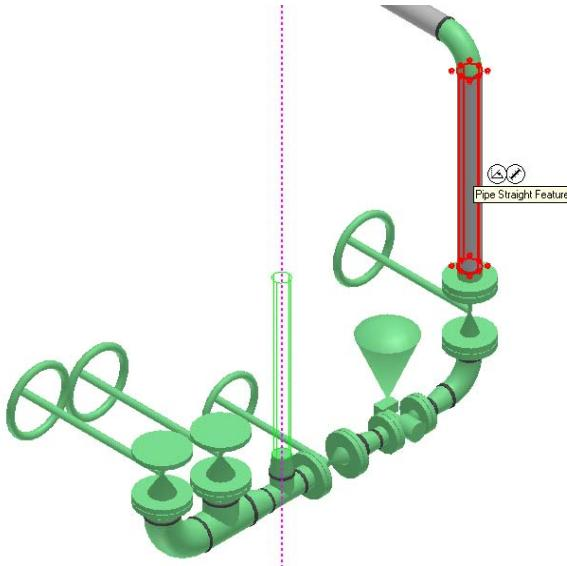

Figure 93: Routing a Pipe Straight Feature
57. Route a **Pipe Straight Feature** to the same elevation as the mid point of the vertical straight feature, as shown in Figure 93.